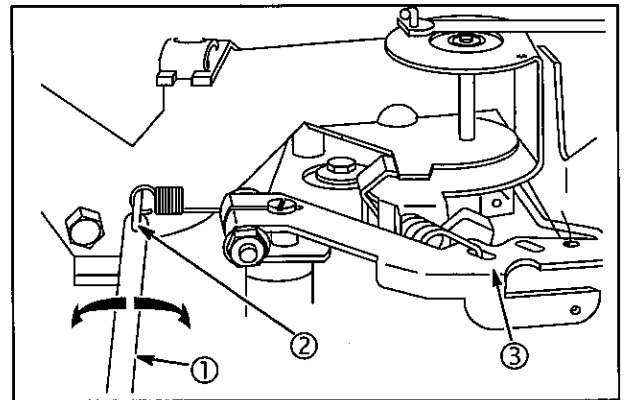

Fig. 35
Governor spring is installed in #1 hole in governor lever (3), Fig. 35.